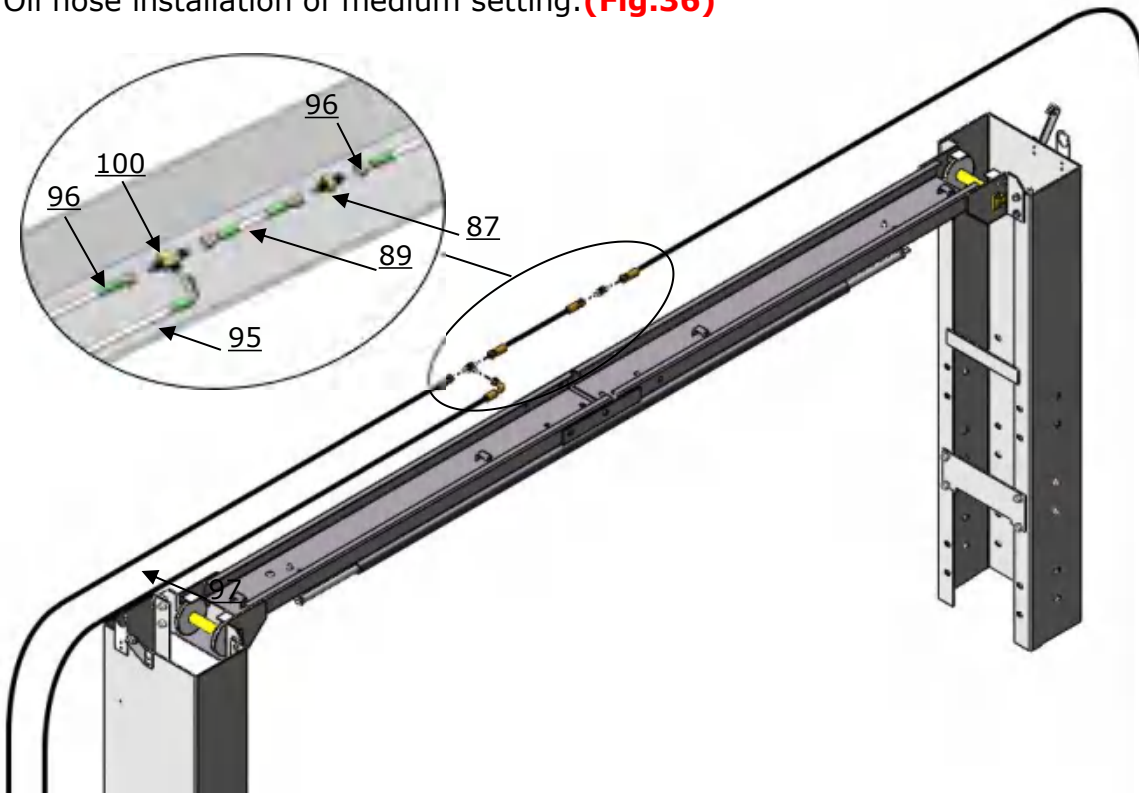

Fig.36
2. Oil hose installation of medium setting. **(Fig.36)**